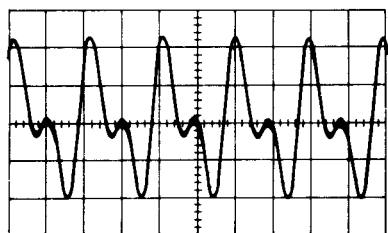

Fig. 5-10 R53/R63 setting (Incorrect)
3. Adjust R53/R63 (RMS SYM) to obtain a clear 200 Hz sine-wave on the oscilloscope. See Figs. 5-10 and 5-11.